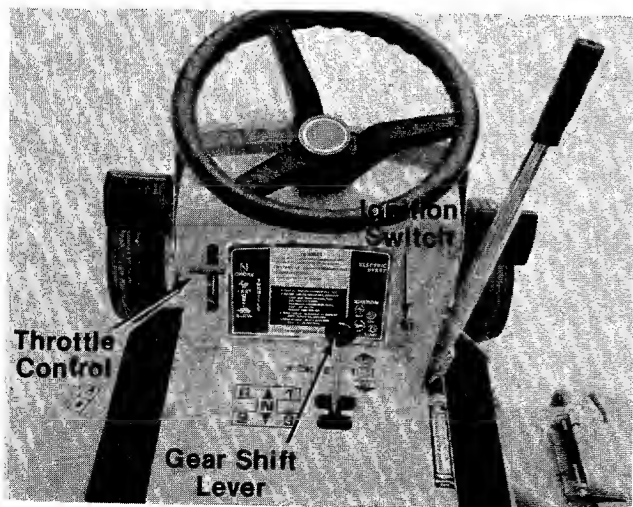

FIGURE 17.
CONTROLS (See Figure 17)
The throttle control is used to regulate the engine speed and to activate the choke on the engine. To get maximum efficiency from cutting, the throttle should be in the FAST position when operating the mower. Pushing the throttle all the way forward past FAST, will choke the engine. See figure 17.
Electric Start Model. The key must be turned to the "START" position to start the engine. After the engine is running, let the key return to the "ON" position. Turn the key to the "OFF" position to stop the engine. Remove the key when the mower is not in use. See figure 17.
See figures 17 and 21.
6. Set the throttle control lever in the "CHOKE" position. See figure 17.
b. **Electric Start Model.** Turn the ignition key to the "START" position. As soon as the engine starts, let the key return to the "ON" position. See figure 17.